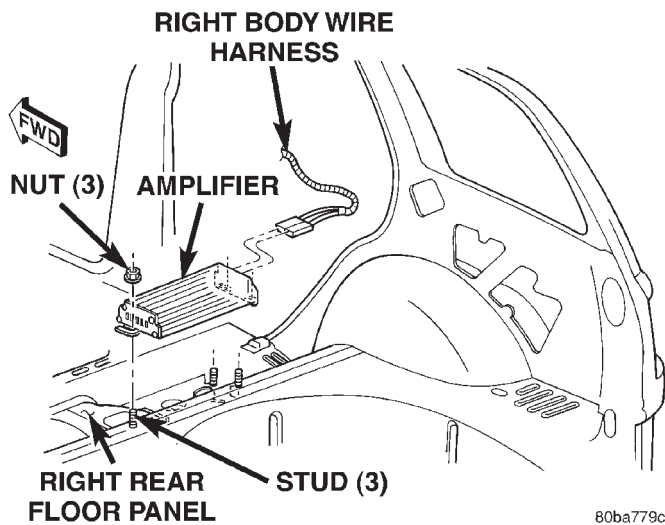

Fig. 11 Power Amplifier Remove/Install
- (1) Disconnect and isolate the battery negative cable.
- (2) Unlatch and lift the right rear seat cushion to the upright position.
- (3) Disconnect the two right body wire harness connectors from the connector receptacles on the right end of the power amplifier (Fig. 11).